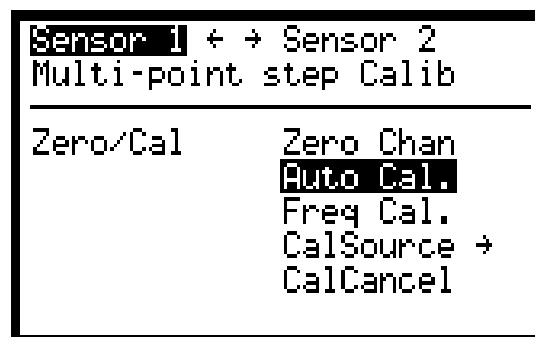

**Figure 3-20. External Calibrator Connection**
- 3.10.6 **Calibrator Selection.** Certain peak power sensors have a video bandwidth that is too high to permit calibration using the 4530's built-in 50MHz calibrator. In this case, an external 1GHz calibrator must be used to autocal the sensor. The Boonton Model 2530 1GHz Programmable Calibrator is designed to connect directly to the 4530 and operate under instrument control in the same manner as the internal calibrator. (See Appendix B.) To use an external 2530 calibrator to calibrate sensors, first make sure the 2530 is connected to the **EXT CAL CONTROL** connector on the rear of the instrument using a standard RJ-11 type modular telephone cable (see Figure 3-20). The calibrator's power must be turned on, and proper connection can be verified by pressing **MainMenu > Calibratr > SelectExt** to select the external calibrator, then pressing **MainMenu > Calibratr > ExtStatus** to view status information from the 2530. If an error message appears, check the connections and repeat the process.